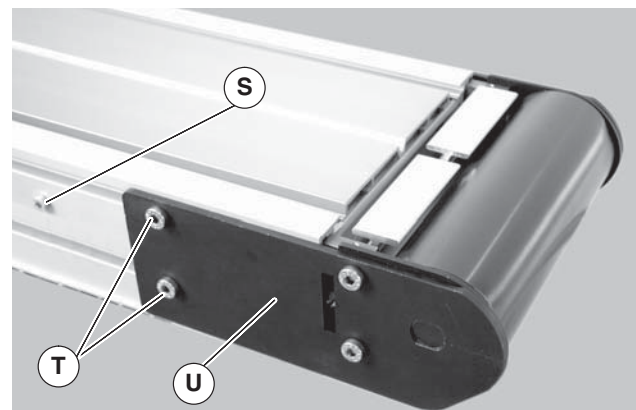

Figure 5
2. On tension end of the conveyor, identified by the pinion locking screw (Figure 5, item S), push in head plate assembly (U): Loosen the pinion locking screw (S), adjust the pinion torque screw (Figure 6, item V). On both sides of conveyor, loosen the two tail clamp bolts (Figure 5, item T), and push head plate assembly (U) inward.